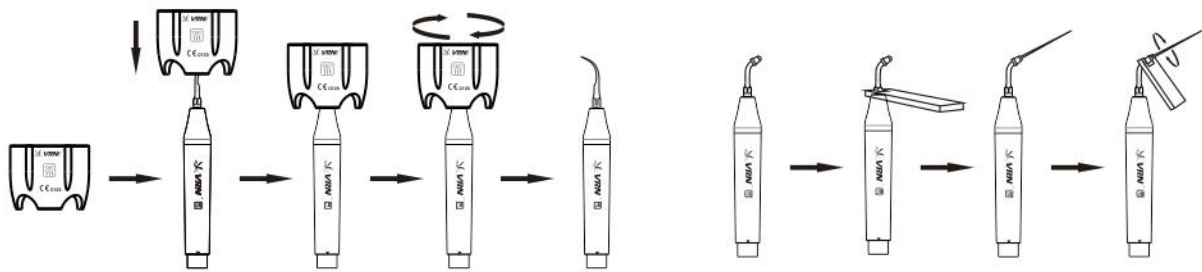

Figure 3
3.1.4 Instruction of Torque wrench Using (See fig.3)